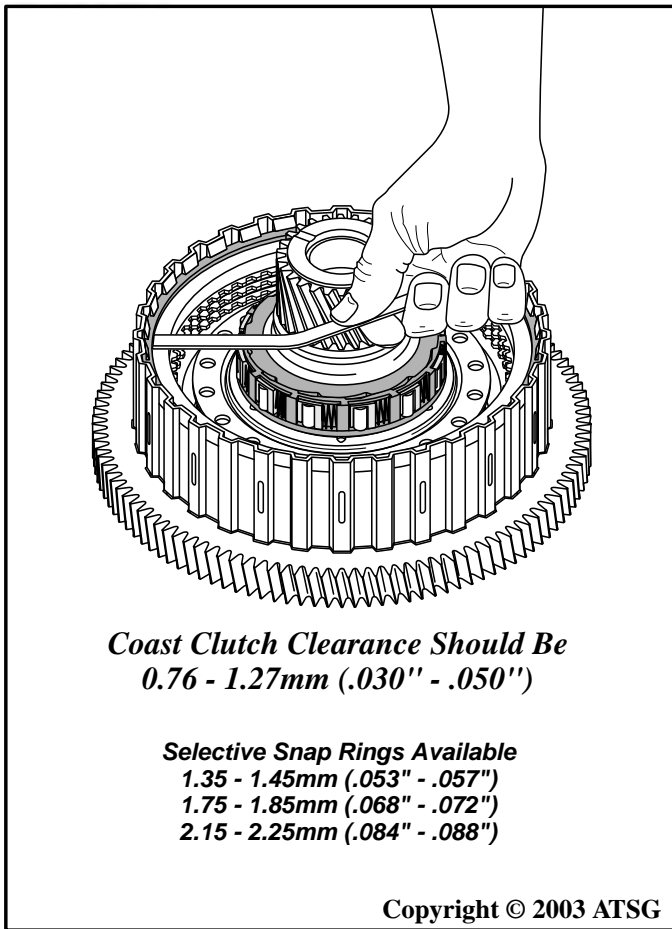

Figure 155
15. Measure the coast clutch clearance between the selective snap ring and backing plate, as shown in Figure 155. Coast clutch clearance should be 0.76 - 1.27mm (.030" - .050").
16. Change the selective snap ring as necessary to obtain proper clutch clearance. Refer to Figure 155 for snap ring thickness' available.